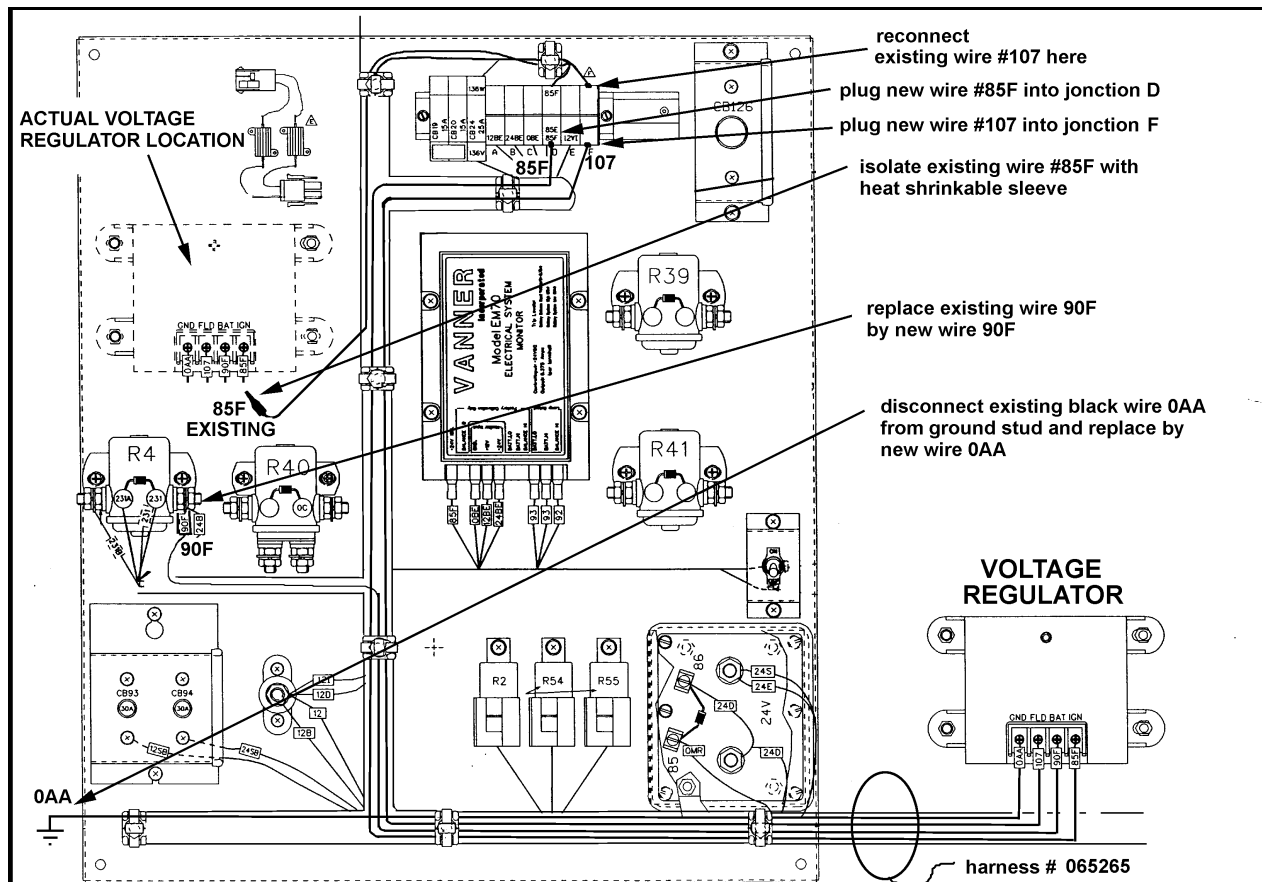
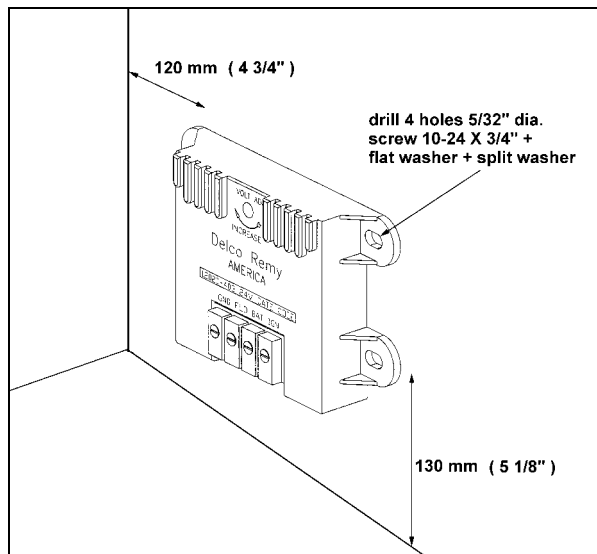

Figure 3 : relocation of voltage regulator
Figure 5 : voltage regulator positioning
3. Locate the Delco Remy voltage regulator (figure 3).
4. With a flat screwdriver, disconnect wire 0AA, 107, 90F & 85F from voltage regulator terminals (figure 3).
6. Reconnect the ring terminal of existing wire 107 to junction F of terminal board (figure 3).
7. Disconnect the other end of wire 90F from relay R4 terminal. Open the cable ties and remove 90F from the existing harness (figure 3).
8. Cut and isolate existing wire 85F with heat shrinkable sleeve (figure 3).
- a) place the regulator as shown on figure 5 and mark the position of holes for drilling.
- b) drill four (4) holes 5/32" dia. and fix the regulator with 4 self-tapping screws 10-24 X 3/4", 4 flat washers and split washers.
10. Connect all wires from new harness # 065265 to regulator terminals. Use the harness end where all the ring terminals are the same size. Connect wire 0AA on GRD terminal, wire 107 on FLD terminal, wire 90F on BAT terminal and wire 85F on IGN terminal (figure 3).
11. Connect the other end of wire 0AA on the ground stud (figure 3).
12. Connect the other end of wire 107 to junction F of terminal board (figure 3).
14. Connect the other end of wire 85F to junction D of terminal board (figure 3).